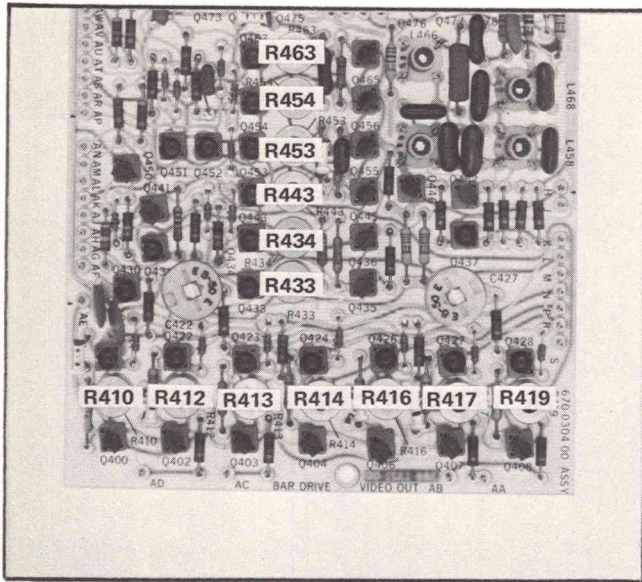

Fig. 5-26. Bar Drive and Video Out board adjustment locations.
d. ADJUST—R410 (see Fig. 5-26), until the two displays just meet.
g. **ADJUST—R414** (see Fig. 5-26) until the two displays just meet.
i. **ADJUST—R433** (see Fig. 5-26) until the setup level of the lower display just aligns with the blanking level of the upper display.
h. ADJUST—R463 (see Fig. 5-26) until the blue luminance level aligns with the blanking level.